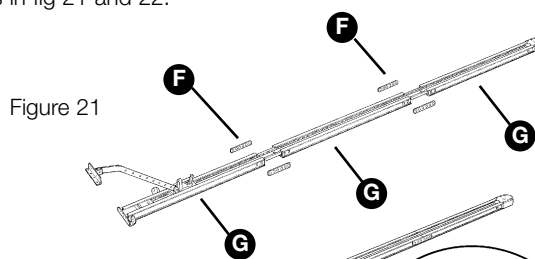

Figure 21
**9** Connect the three parts [G] together using the connection brackets [F], as in fig 21 and 22.